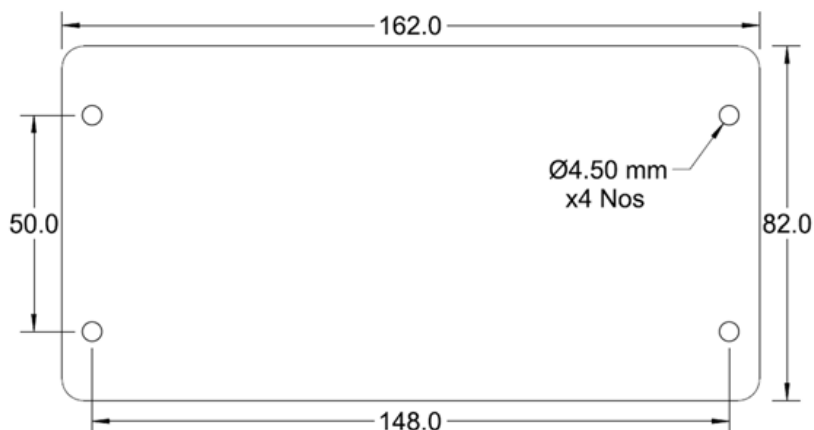

Figure 3
- Drill 4x holes for mounting the transmitter on a flat surface. Refer to Figure 3 for mounting dimensions.